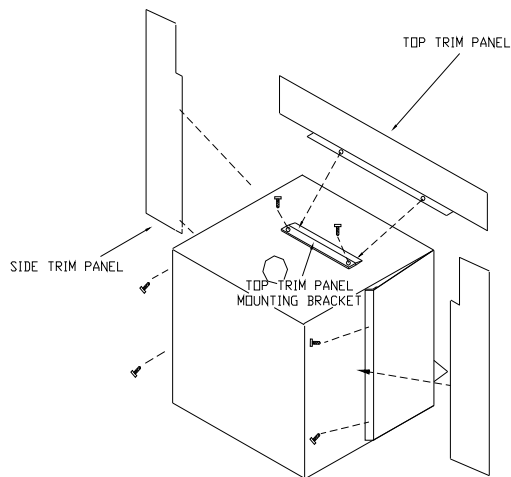

FIGURE 3 MOUNTING TRIM PANELS
4. Mount the side trim panels. (See Figure 3).
12. Using insulation provided, peel and stick to back of panels overlapping fireplace dimensions by 1" on each side and top. (See Page 8, Figure 3).